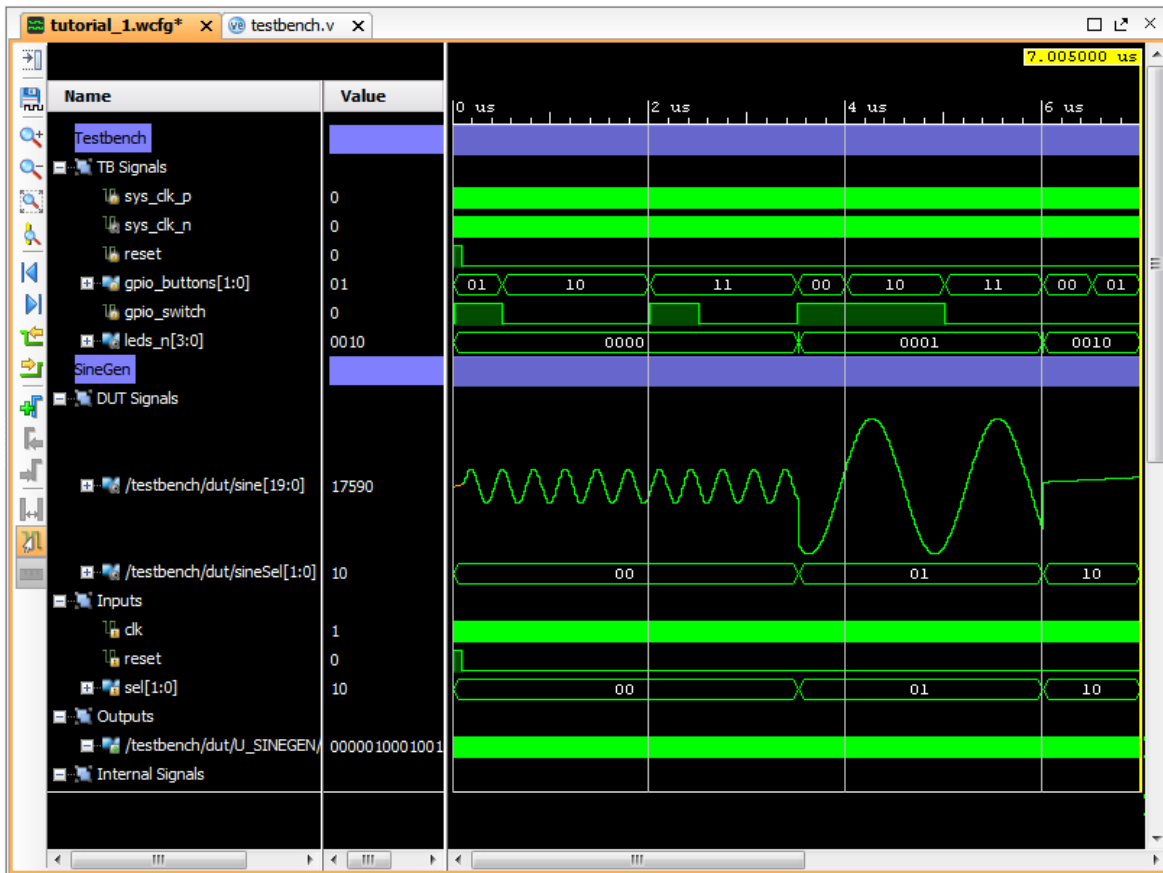

Figure 32: Corrected Low Frequency Output
- Click the **Run All** button  (Figure 32) to run the simulation.